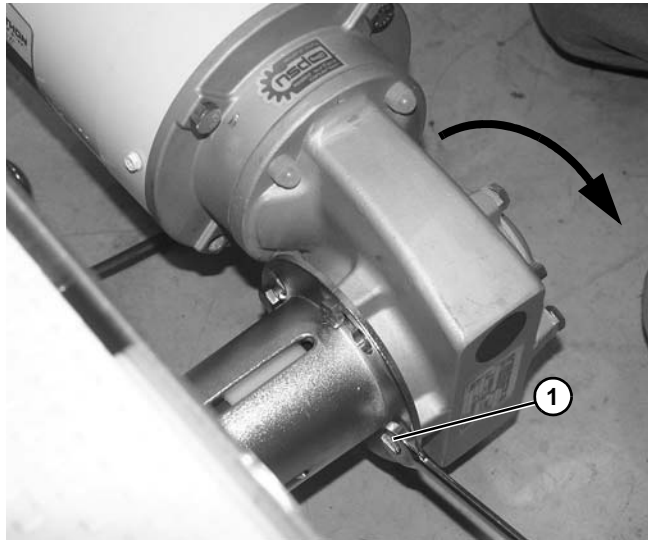

Figure 52
1. Loosen the four screws (**Figure 52, item 1**). Rotate and remove the gearmotor. (For further detailed instructions, refer to drive package manual 851-947.)